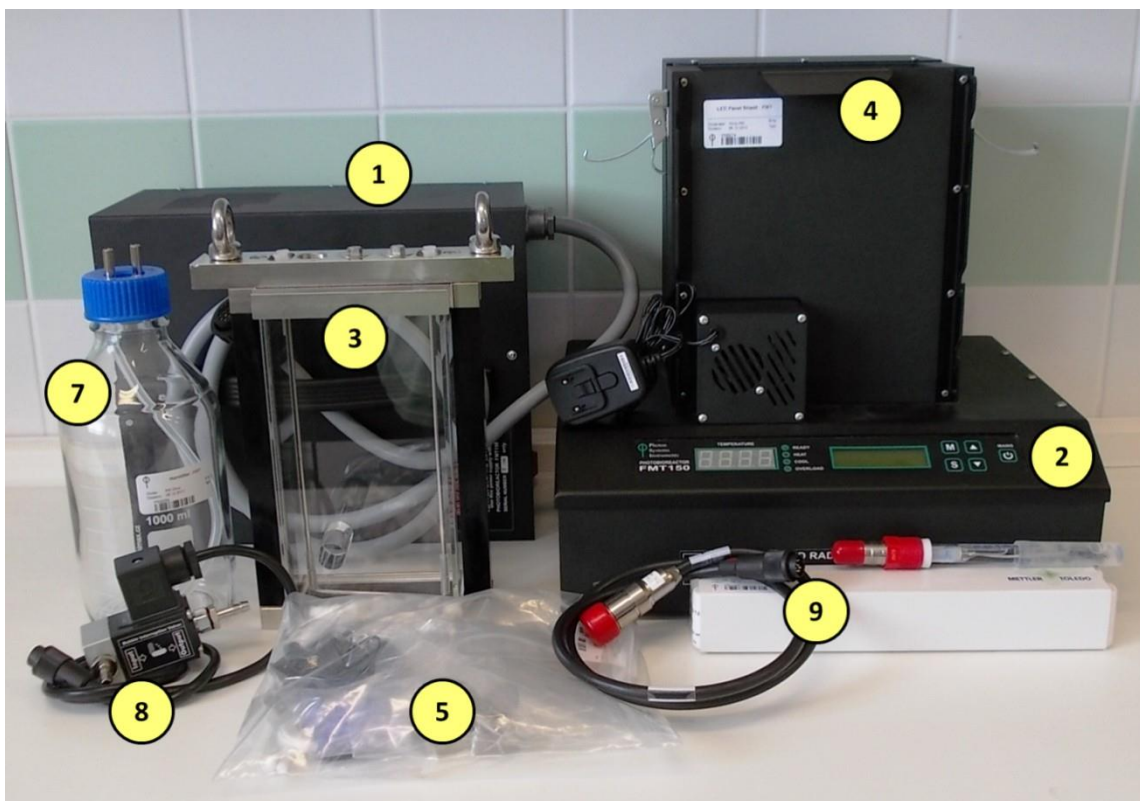

Fig. 6 Minimal configuration set of the Photobioreactor FMT150. Numbers correspond to component numbers as described on page 14.
Minimal required configuration that is recommended to be purchased for optimal operation of the Photobioreactor cultivation and monitoring system consists of **set of standard photobioreactor components** (as listed below) plus air pump with bubble interruption valve and **pH/temperature module**. Components that are part of minimal Photobioreactor FMT150 configuration are shown in Fig. 6. Optional components that are available as accessory modules and can be purchased together with Photobioreactor FMT150 are described in chapter 5.
As shown on Fig. 6 on page 16 the FMT150 is shipped with:
8. **Bubble interruption valve with air pump** (air pump not shown on Fig. 6).